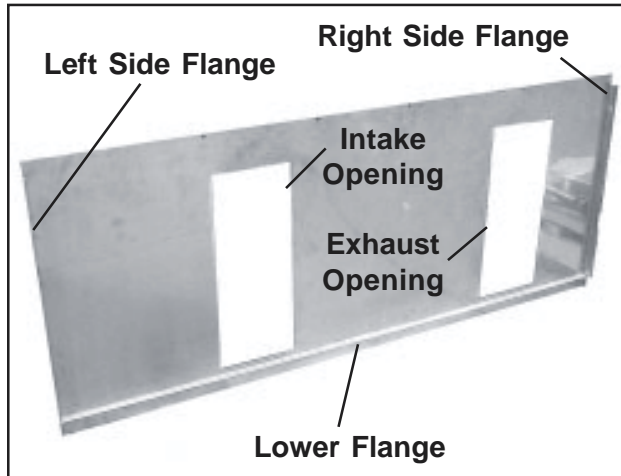

Figure 13. Front View of Inner Panel
1. Orient the inner panel as shown in Figure 13 with the side and lower flanges pointed to the side, and the exhaust opening on the right.